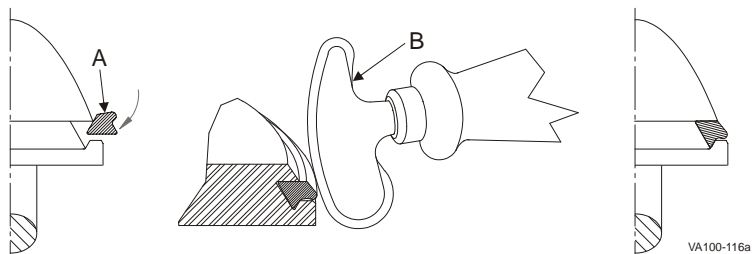
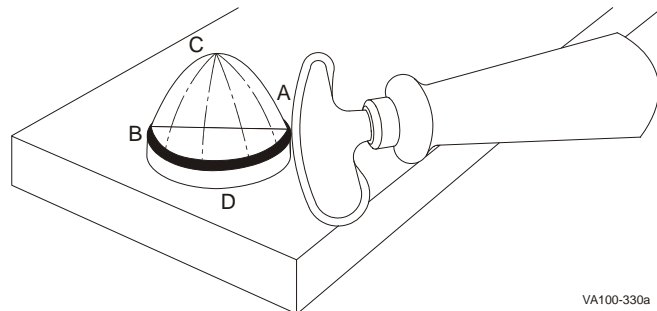

Figure 25 : Installing New Tri Ring Seat
Figure 26 : Pressing Tri Ring Into Plug
3. Lubricate the new Tri Ring (Figure 25, item A) with acceptable cleansing solution or lubricant.
5. Start the Tri Ring as shown in Figure 25.
6. Using the installation tool, part number 102797+ (Figure 25, item B), press the Tri Ring into the plug at locations A, B, C, and D (Figure 26). If this tool is not available, a dull, flat tool can be used. DO NOT use a knife or any other sharp item that will tear or cut the Tri Ring.
8. When properly installed, the Tri Ring seat lip will protrude slightly from the seat edge as shown in Figure 25.